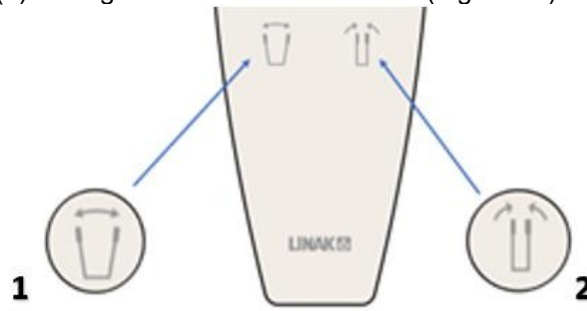

Figure 19 – Control button spreading range of the device's legs of the base
Use the hand control for the Elevand FoldSmart ELS patient lift with electric leg adjustment. Press and hold the button to spread (1) or fold (2) the legs of the device as needed (Figure 19).